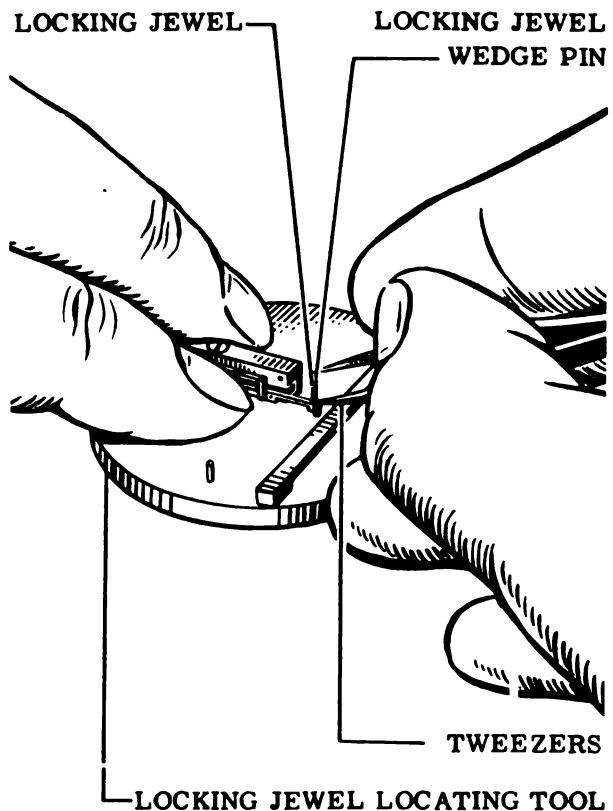

Figure 58
3. Place detent on locking jewel locating tool. Use Tool No. 41, which is shown in Figs. 58 and 59.
6. Insert locking jewel wedge pin lightly. With tweezers, mark pin just above the detent arm. See Fig. 58. Place pin in pin vise. With end-cutting pliers (Tool No. 77), cut off pin about 0.020 in. above the mark. Stone cut end smooth. Remove pin.